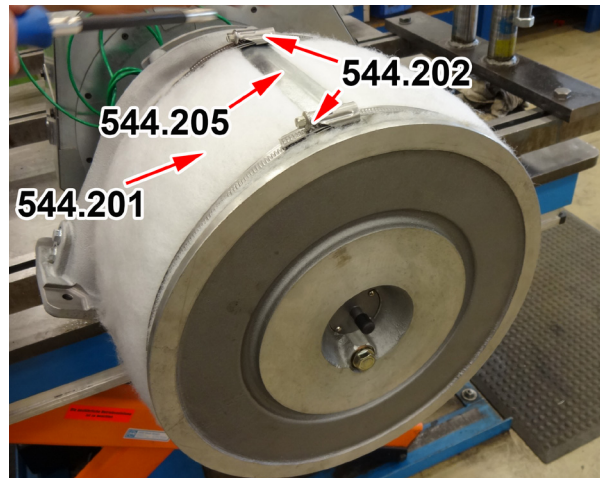

Figure 4 Starting position for fixation of new air filter mat
7. Place the cover sheet (544.205) over the hem of the air filter mat (see figure 4)